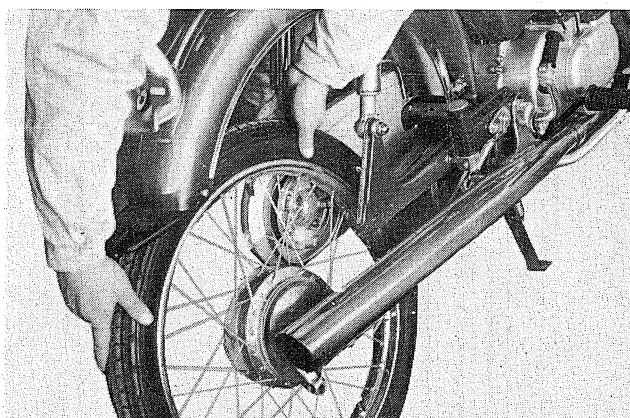

Fig. 4-2-7
- 4) Incline the chassis and remove the rear wheel. (Fig. 4-2-7)